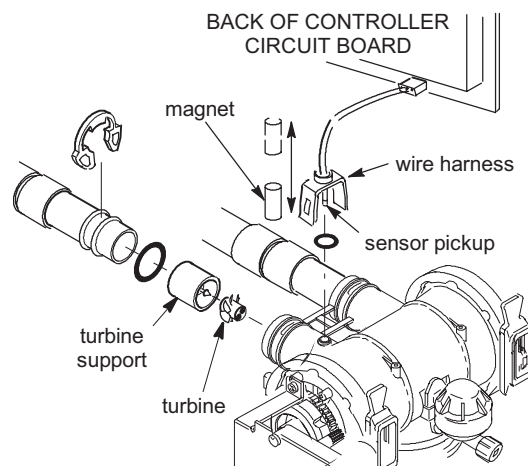

FIG. 104
6. If the display reading does not change with the faucet open, pull the wire harness from the valve outlet port (See Figure 104).